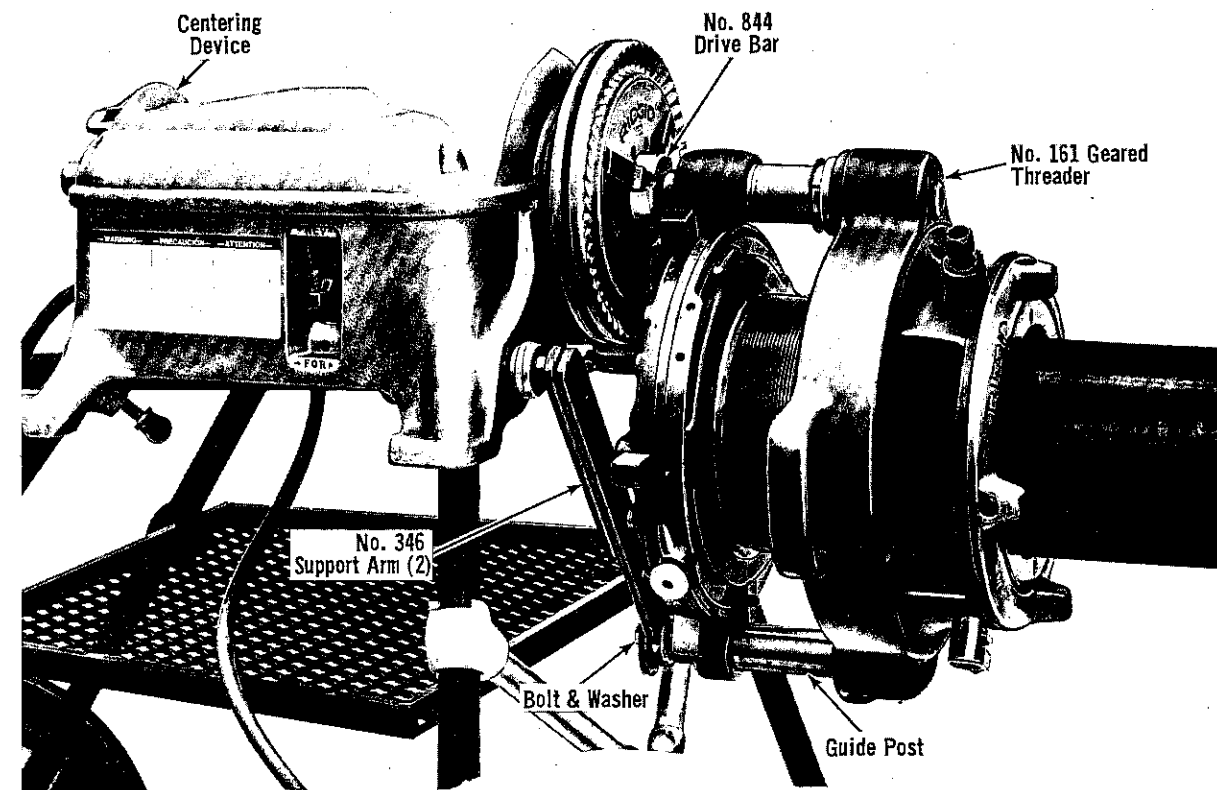

Figure 11. No. 161 Geared Threader Close-Coupled to Power Drive.
5. 161 Threader (Fig. 11) - Insert No. 346 Support Arms into Support Bars.
161 Threader (Fig. 11) - Remove Set Screw (plug) from Threader Guide Post and secure Support Arms with Bolt and Washer.